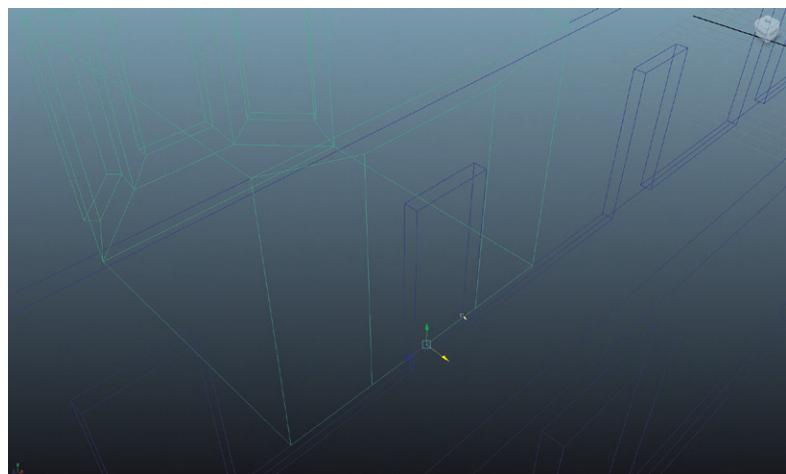

FIG 3.31 Snapping the room to the doorway.
Step 46: Move the room into place so it snaps right up against the second doorway (Fig. 3.31). Do this by holding v down and with the Move Tool snapping to one of the bottom corners of the door relief. You may need to rotate the room into place.
You can sometimes “help” the snap tools by moving the mouse to the exact vertex you are wanting your selection to snap to. Notice in Fig. 3.31 that the mouse is sitting on the bottom right corner of the hall’s door relief. Even though I’m only moving the room in X, if the mouse moves over that vertex on the doorway while I’m moving it, Maya will know, “Oh, so he wants me to snap (in X) to the level of *this* vertex.”